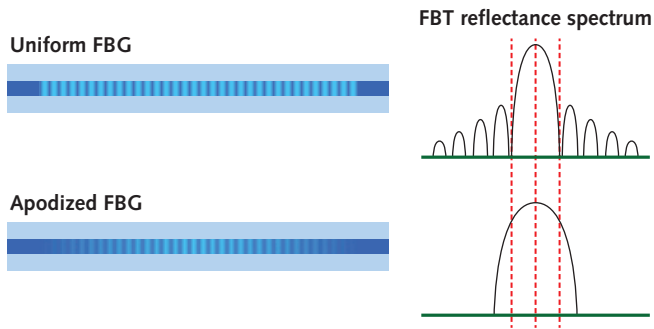

FIGURE 3. FBG apodization suppresses side lobes, but increases reflectance bandwidth.
1.6 mm CuSi_3 alloy wire with a 3.5 kW infrared brazing beam at a process rate of 4.5 meters per minute. When 350 W lead beams are added to pre-clean the steel edges prior to melting the copper silicon (CuSi) wire, greater edge uniformity and a better surface finish are readily observable (see Fig. 3).
FIGURE 3. A comparison of single-spot (a) and trifocal (b) brazed seams that join steel with CuSi wire. An improved finish and suppression of edge roughness is evident in the trifocal brazing example. A cross-section (c) highlights the joint uniformity and quality obtainable with trifocal brazing.
For a grating with a uniform index modulation along its length, reflectance bandwidth narrows as the grating length increases. Unfortunately, the sharper the reflectance peak, the more energy is shunted into side lobes. This effect can be countered by varying the depth of index modulation along the FBG, which is called apodization. However, this does produce some increase in the center reflectance peak bandwidth because it decreases the effective grating length (see Fig. 3).
FIGURE 3. FD&C Blue #2 measured using 532 nm (green), 785 nm (red), and 1064 nm (blue) handheld Raman systems. The material is identifiable at the 1064 nm excitation wavelength but impossible to identify at shorter-wavelength excitation because of fluorescence background interference. (Courtesy of Rigaku Analytical Devices)